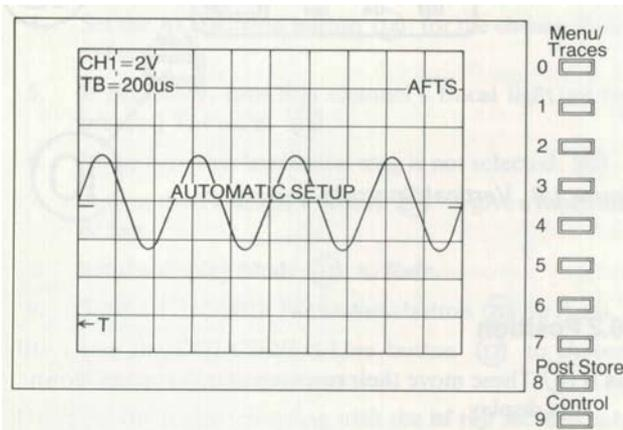

Figure 1.4.1 An AUTO SETUP Display
To display an input signal, connect it via either the CHI socket (9) or the CH2 socket (12) and press AUTO SETUP (24) . Assuming you've applied a regular signal, say a 2kHz sine-wave with an amplitude of perhaps 5V peak to peak, it will almost immediately be represented on the display. An example is shown in Figure 1.4.1.